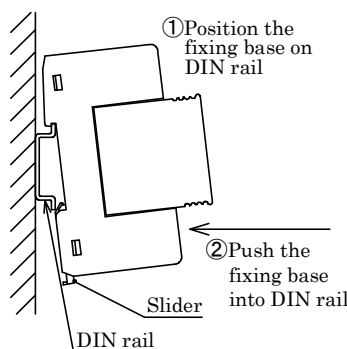

Fig.2 Installation on DIN rail
a) Installation method (Ref.Fig.2) :